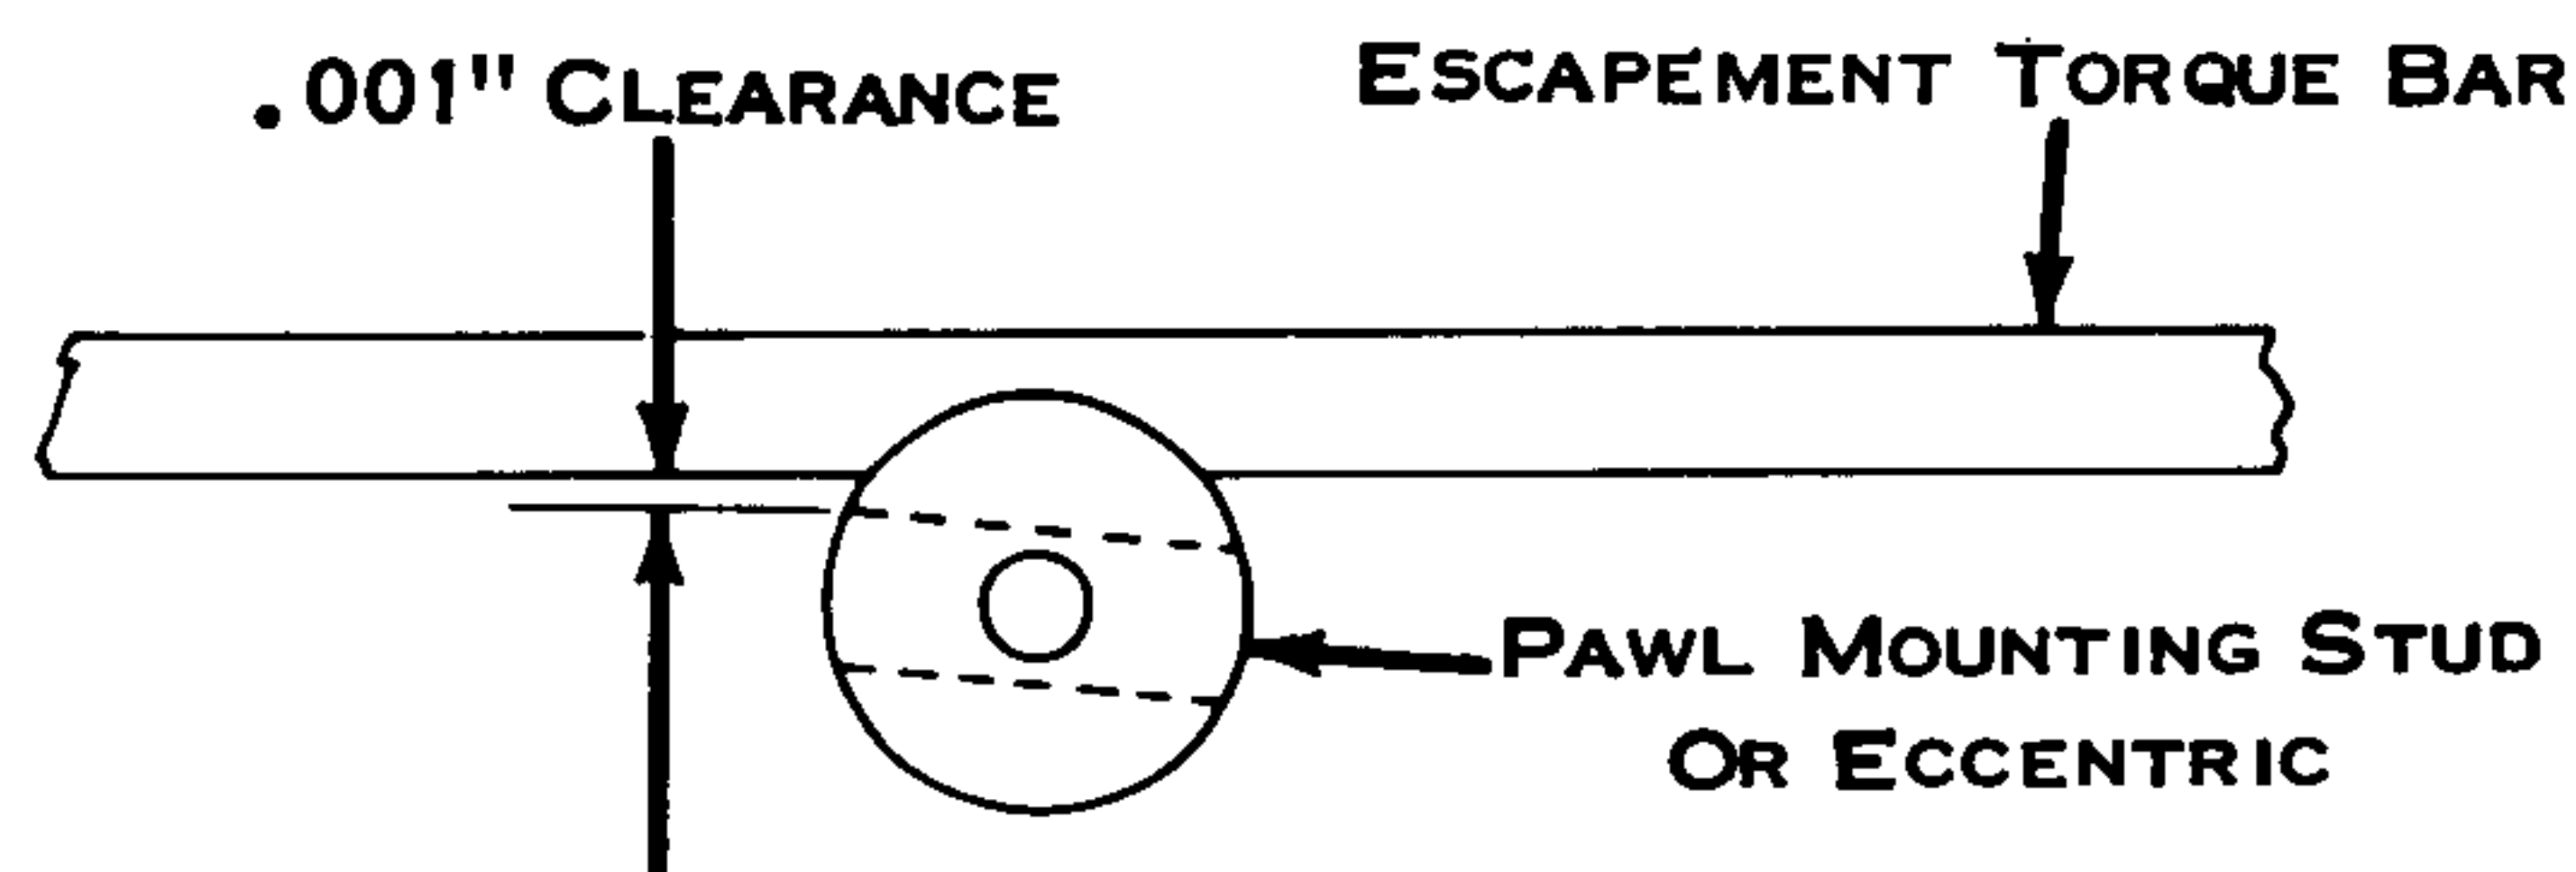

Figure 147. Pawl Mounting Stud or Eccentric
3. Pawl Mounting Stud or Eccentric (Fig. 147) - Position so the stud (left side) or eccentric clears the escapement torque bar by .001" at closest point.